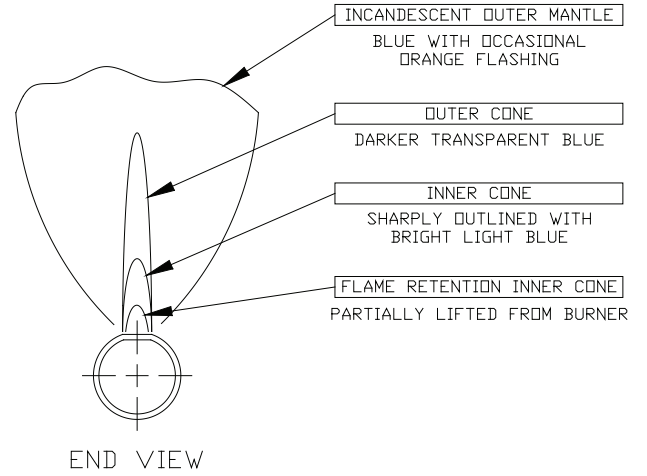

FIGURE 10.2: MAIN BURNER FLAME
- 11) Inspect the main burner flames visible through the observation port in burner access panel. The flame should be stable and mostly blue (see Figure 10.2). No yellow tipping should be present; however, intermittent flecks of yellow and orange in the flame are normal.